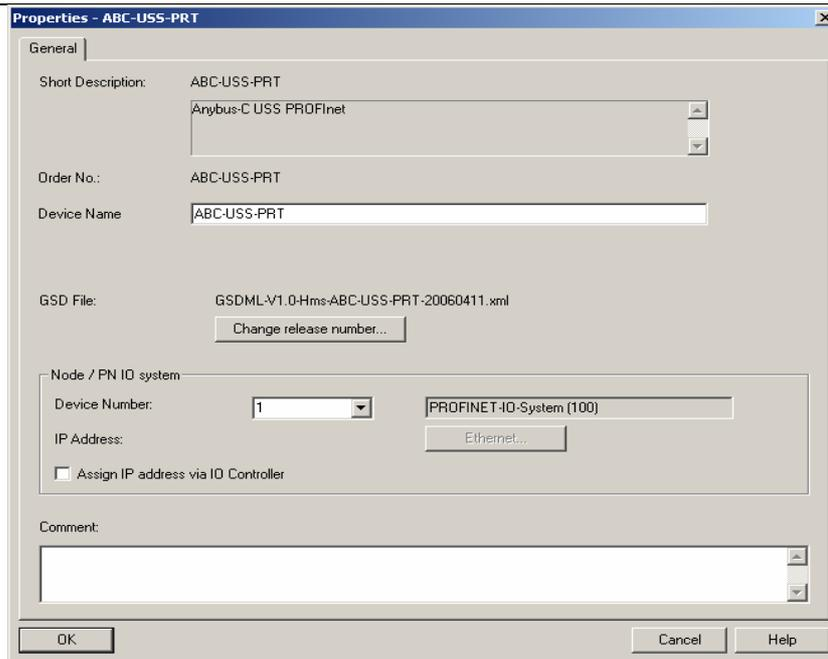

Figure 16
10. Make sure that the “Assign IP address via IO Controller” is not selected, as shown in figure 16.